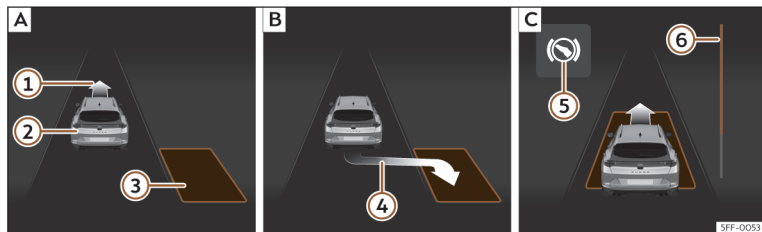
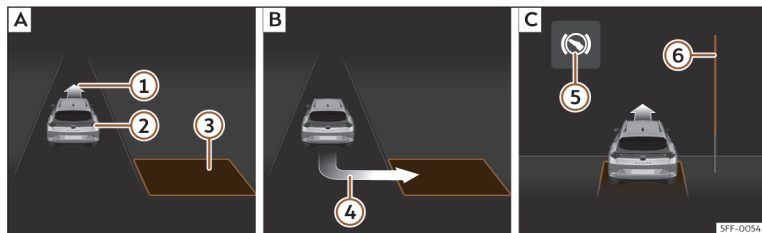

Fig. 182 On the instrument panel display: parallel parking. **[A]** Finding a parking space. **[B]** Parking position. **[C]** Manoeuvring.
Fig. 183 On the instrument panel display: angle parking. **[A]** Finding a parking space. **[B]** Parking position. **[C]** Manoeuvring.
- Look at the display on the instrument panel to see if the space has been detected as “appropriate” and if the correct position for parking has been reached»» Fig. 182 **[B]** or»» Fig. 183 **[B]**. The space is considered
- Reverse until the continuous ParkPilot signal sounds; **OR:** reverse until the indication to move forward appears on the instrument panel display >>> Fig. 182 [C] or >>> Fig. 183 [C]; **OR:** reverse until the **Park Assist finished** message appears on the instrument panel display. The progress bar ⑥ indicates the distance to cover >>> page 281.
- Press the brake pedal until the parking assist system completes the steering wheel turns; **OR:** until the symbol (S) goes out on the instrument panel screen.
- Move forward until the continuous ParkPilot signal sounds; **OR:** move forward until the reverse indication appears on the instrument panel display. The Park Assist system steers the vehicle forward and back until it centres it in the space >>> Fig. 182 [C] or >>> Fig. 183 [C].
The progress bar >>> Fig. 182 ⑥ and >>> Fig. 183 ⑥ on the screen of the instrument panel displays the relative distance to be covered. The greater the distance, the fuller the progress bar. When driving forward, the content of the progress bar decreases upwards, and when reversing, it decreases downwards.